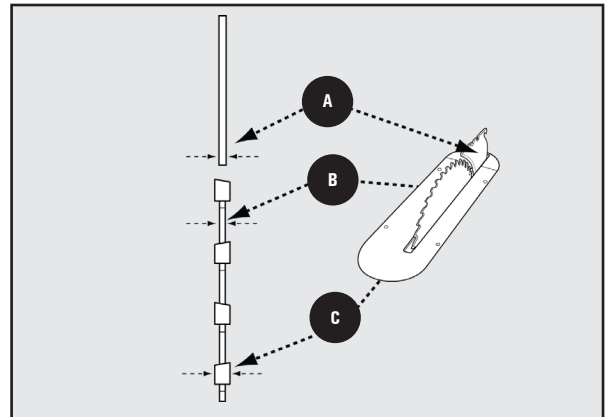

Figure 37
**NOTE:** Safety devices, blade guard assembly and anti-kickback assembly have been removed in Figure 37 in order to show the location of specific features. When operating the saw, these safety devices should be in place and working properly.
The riving knife thickness **A** **MUST** be greater than the blade body or plate thickness **B** and less than the kerf or cutting width **C** as shown in Figure 37. The riving knife provided with this saw is 2.2mm thick and may be used **ONLY** with a 10 inch (254mm) blade with 0.102 inch (2.6mm) minimum kerf width and 0.073 inch (1.8mm) maximum body thickness. **DO NOT** attempt to use this riving knife with blades that are not within these dimensions.